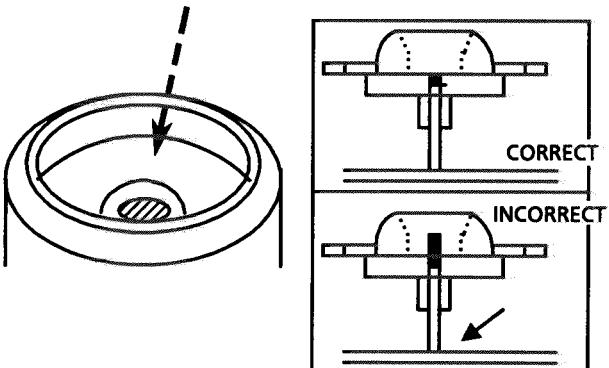

Fig. 46
- (31) After inserting the turntable , bond the motor shaft and turntable together (at the section marked by an arrow in fig 46 on the left below).
Be extremely careful not to allow bonding agent to adhere to the motor bearing (the section marked by an arrow in fig 46 on the right).